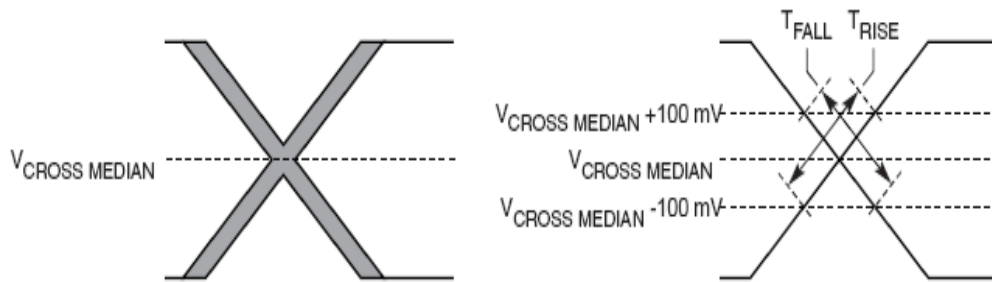

Figure 51. Single-Ended Measurement Points for Rise and Fall Time Matching
6. Matching applies to rising edge for $\overline{\text{SDn_REF_CLK}}$ and falling edge rate for SDn_REF_CLK . It is measured using a 200 mV window centered on the median cross point where $\overline{\text{SDn_REF_CLK}}$ rising meets SDn_REF_CLK falling. The median cross point is used to calculate the voltage thresholds that the oscilloscope uses for the edge rate calculations. The rise edge rate of $\overline{\text{SDn_REF_CLK}}$ should be compared to the fall edge rate of SDn_REF_CLK , the maximum allowed difference should not exceed 20% of the slowest edge rate. See Figure 51.